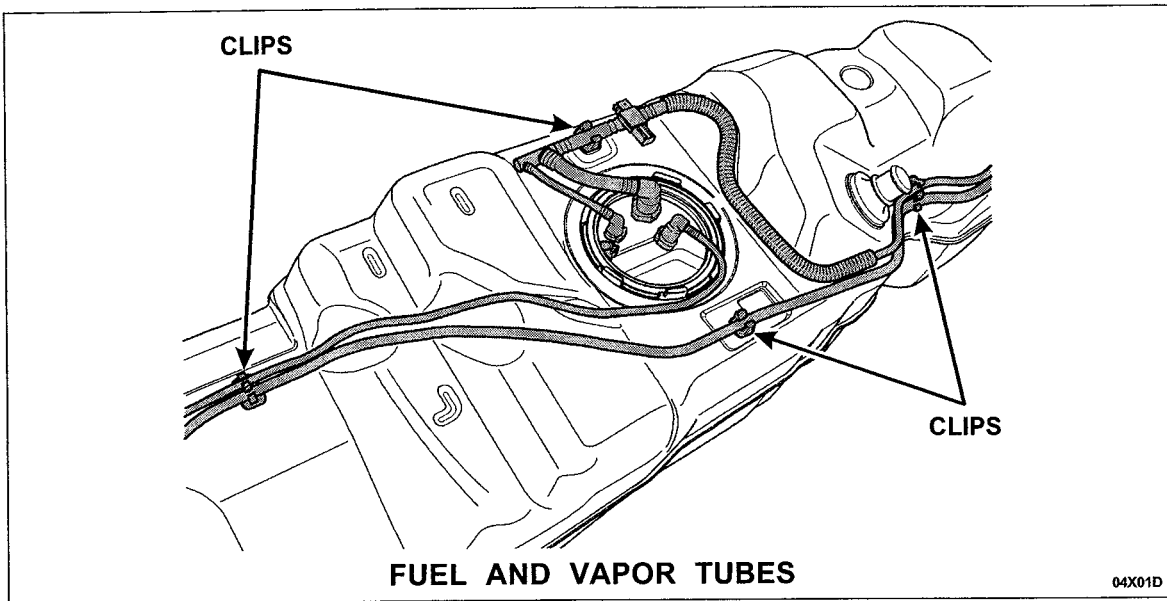

FIGURE 4
Carefully remove the fuel and vapor tubes from the four (4) retaining clips. See Figure 4.